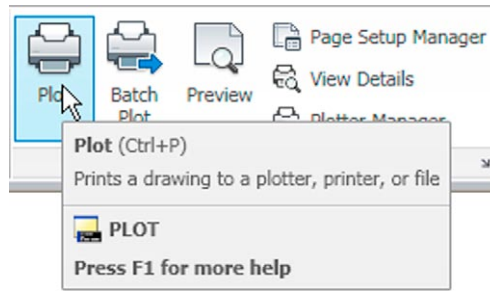

Fig. 15.34 The **Plot** icon in the **Output/Plot** panel
1. With a drawing to be printed or plotted on screen *click* the **Plot** tool icon in the **Output/Plot** panel (Fig. 15.34).